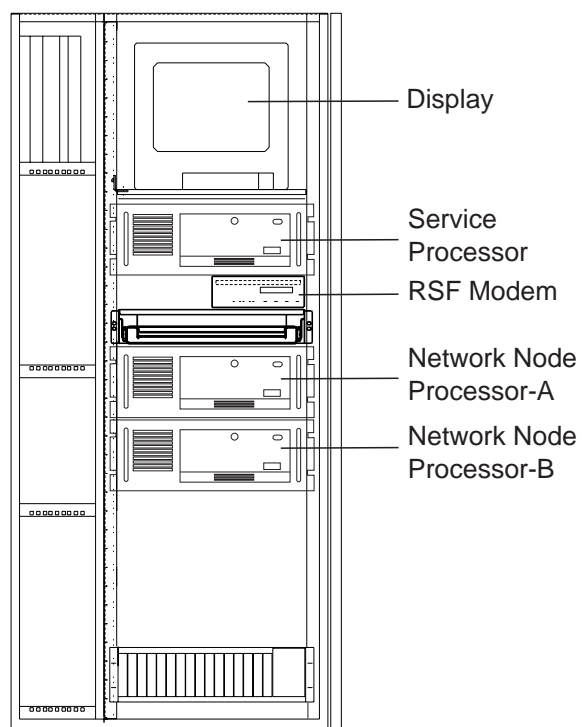
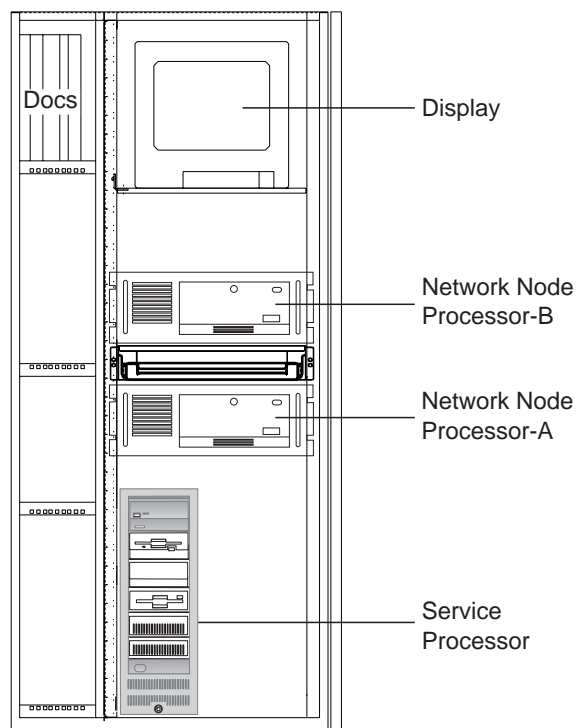

Figure 1. NNP-B installed with SP 7585.
Figure 4. NNP-B installed with SP 9585.
- ___ 2. Locate the Network Node Processor. (Refer to Figure 1 to Figure 4 on page 5).